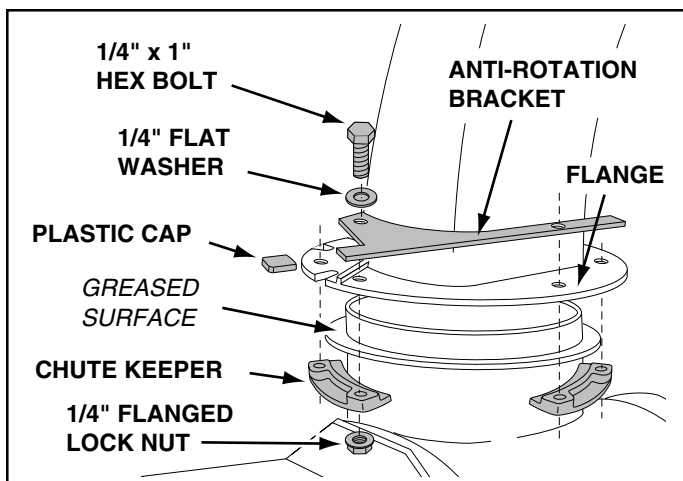

FIGURE 20 RIGHT SIDE VIEW
- Coat the top of the ring around the discharge opening with general purpose grease. See figure 20.
- Place the discharge chute (facing forward) onto the ring. Place the anti-rotation bracket on top of the chute flange, aligning it with the holes on the right hand side of the flange. Attach the three chute keepers (right side up as shown) to the bottom of the flange using six 1/4 inch x 1 inch hex bolts, 1/4 inch flat washers and 1/4 inch flanged lock nuts. **Tighten carefully** so that the nuts are snug but do not dig into the plastic chute keepers. See figure 20.
- Place the plastic cap onto the short end of the anti-rotation bracket. See figure 20.